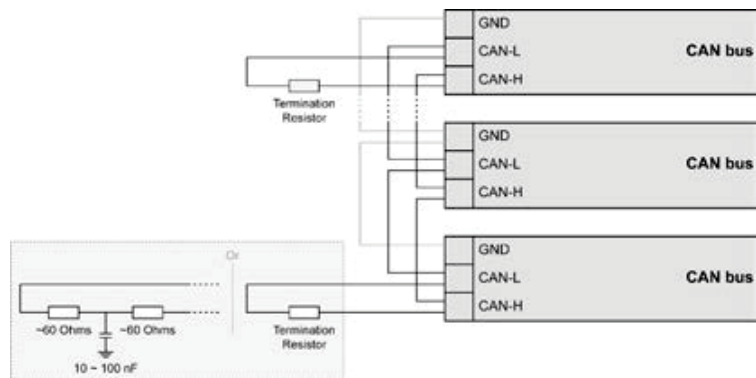

Fig. 77: CAN bus - termination
The termination resistor is connected between CAN-H and CAN-L (Fig. 77).
- Divide the termination resistance into 2x60 Ohms with a center tap connected to ground via a capacitor of 10 to 100 nF (Fig. 77).